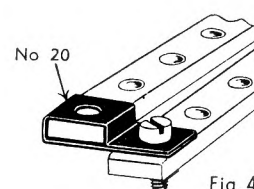

Fig. 4
**MATCH BOX CONSTRUCTION SET (MBC1)** This set is not in MCS, for the version there under that name see MBC2 below. The upper side of MBC1 (Fig 3) has the name and at the bottom LINEMAR, BEST BY FAR, LINE MAR TOYS in the circle, and below DES.PAT.PEND. Linemar Toys I understand was a company founded in Tokyo c.1950. The underside is shown in Fig 4. The parts are similar to those in CLU but are not so well made, and the tinplate is .009" thick against .014" in CLU. Some of the non-metal parts are particularly bad with off centre holes and the wheels have no pulley grooves. The 'washers', L, are made from thin cardboard instead of 4mm hardboard, and the holes in them are too large to allow them to grip the dowels. The contents are as CLU except that only 1xC and 27xL were found.